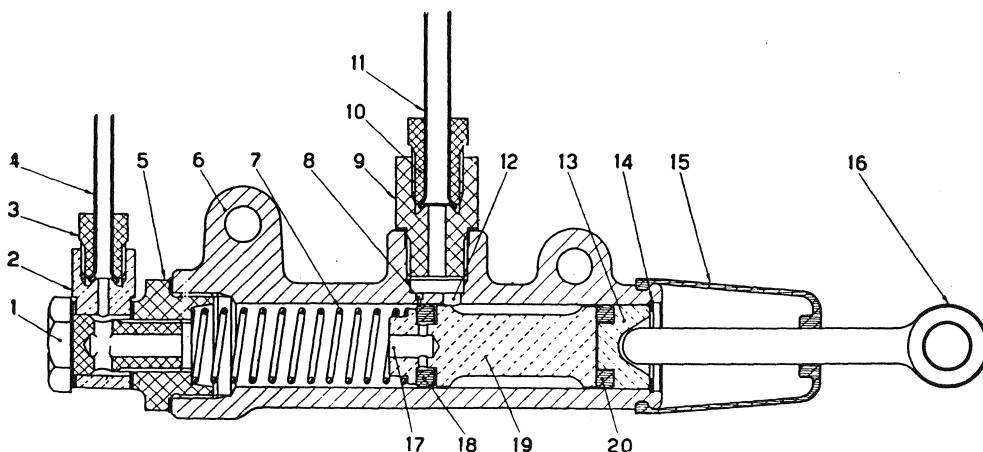

Fig. 347.
It operates in the following way (fig. 347):
Through hole (12, fig. 347), the fluid is admitted to master cylinder, seeps through gap between valve ring carrier (19) and master cylinder barrel and, flowing through valve ring carrier holes (17), reaches and fills the system.
Remove rubber boot (15, fig. 347) and rod (16).